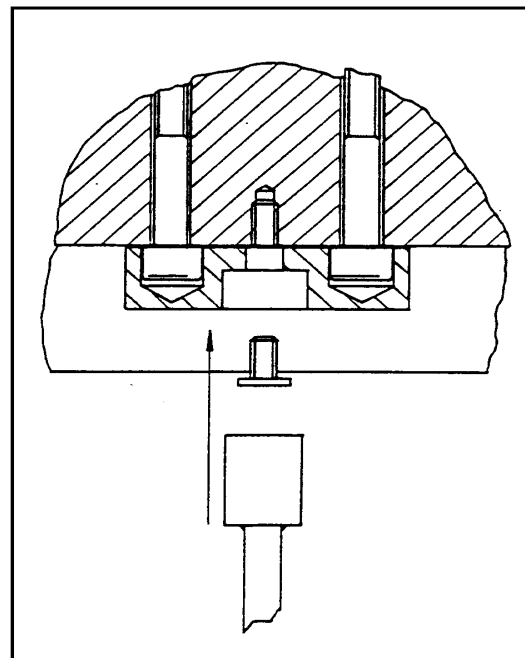

Fig. 6. Attach fixings security cover using M6 x 12 (ref SFC 25) security screw and special tool provided.
Fig. 4. Insert bar key into lock ass'y & remove SFC key. Place lock ass'y in desired position on door flange, then drill through door flange (9mm dia.) to suit SFC [slide] bracket (J) & M6 x 10 deep to suit fixings security cover. (See Fig 6).